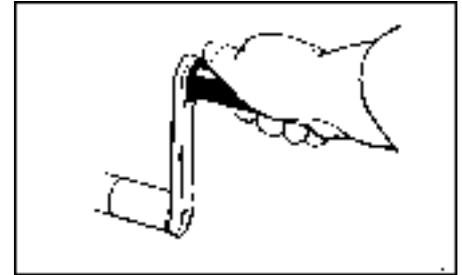

Figure 2.2.2 Holding the Starting Handle
7. Firmly hold the handle grip, with the thumb on top of the grip as shown in 'Figure 2.2.2', and crank the engine really fast, when sufficient speed is obtained move the decompressor